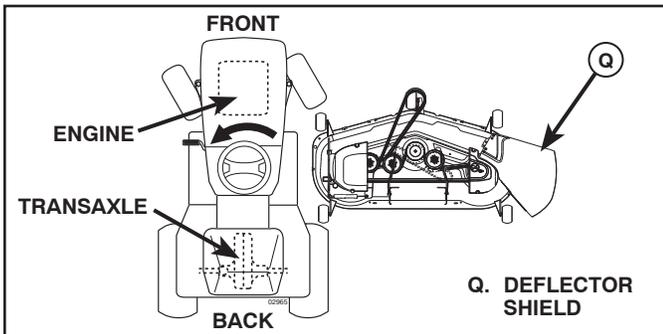

Fig. 25
## 3. TURN STEERING WHEEL LEFT AND POSITION MOWER (See Fig. 25)
## 9 INSTALL BELT ON ENGINE CLUTCH PULLEY (M) (See Fig. 25 & 33)
- Disengage belt tension rod (K) from locking bracket (L).
- Install belt onto engine clutch pulley (M).